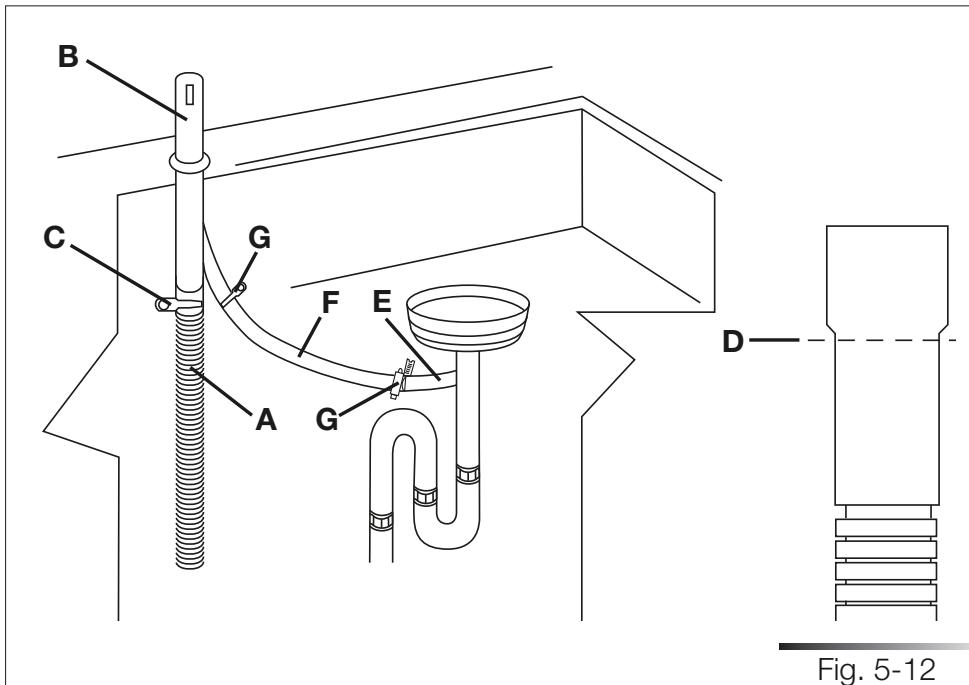

Fig. 5-12
2. Connect the dishwasher drain hose (ref. B fig. 5-11) to the air gap (ref. C fig. 5-11) using the wide spring clamp (ref. D fig. 5-11); if necessary, cut the end of the dishwasher drain hose (ref. E fig. 5-12) (do not cut the corrugated section). If the drain hose has been cut, use a 38 to 50 mm (1-1/2 to 2") screw clamp\*.
1. Connect the dishwasher drain hose (ref. A fig. 5-12) to the air gap (ref. B fig. 5-12) using the wide spring clamp (ref. C fig. 5-12); if necessary, cut the end of the dishwasher drain hose (ref. D fig. 5-12) (do not cut the corrugated section). If the drain hose has been cut, use a 38 to 50 mm (1-1/2 to 2") screw clamp\*.
2. To connect the air gap (ref. B fig. 5-12) to the "T" union (ref. E fig. 5-12) of the drain line, use a rubber union\* (ref. F fig. 5-12) with spring or screw clamps\* (ref. G fig. 5-12).